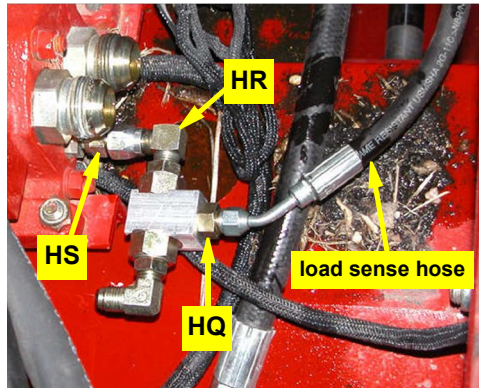

Figure 2d: Assembled load sense shuttle installed at valve stack
- d. Install adapter **HS** on the load sense port of the valve stack and connect the adapter **HR** (and the load sense shuttle) to **HS** (Figure 2d).
Connect the existing load sense hose to adapter **HQ** on the load sense shuttle (Figure 2d).